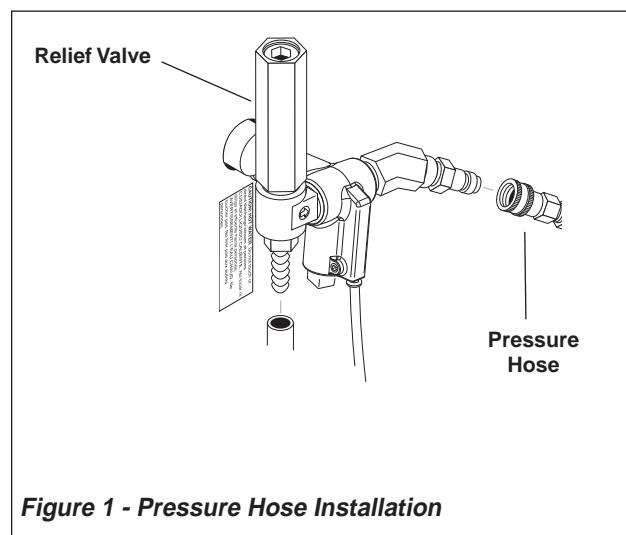

Figure 1 - Pressure Hose Installation
2. Install the pressure hose on the pressure washer as shown in **Figure 1**.